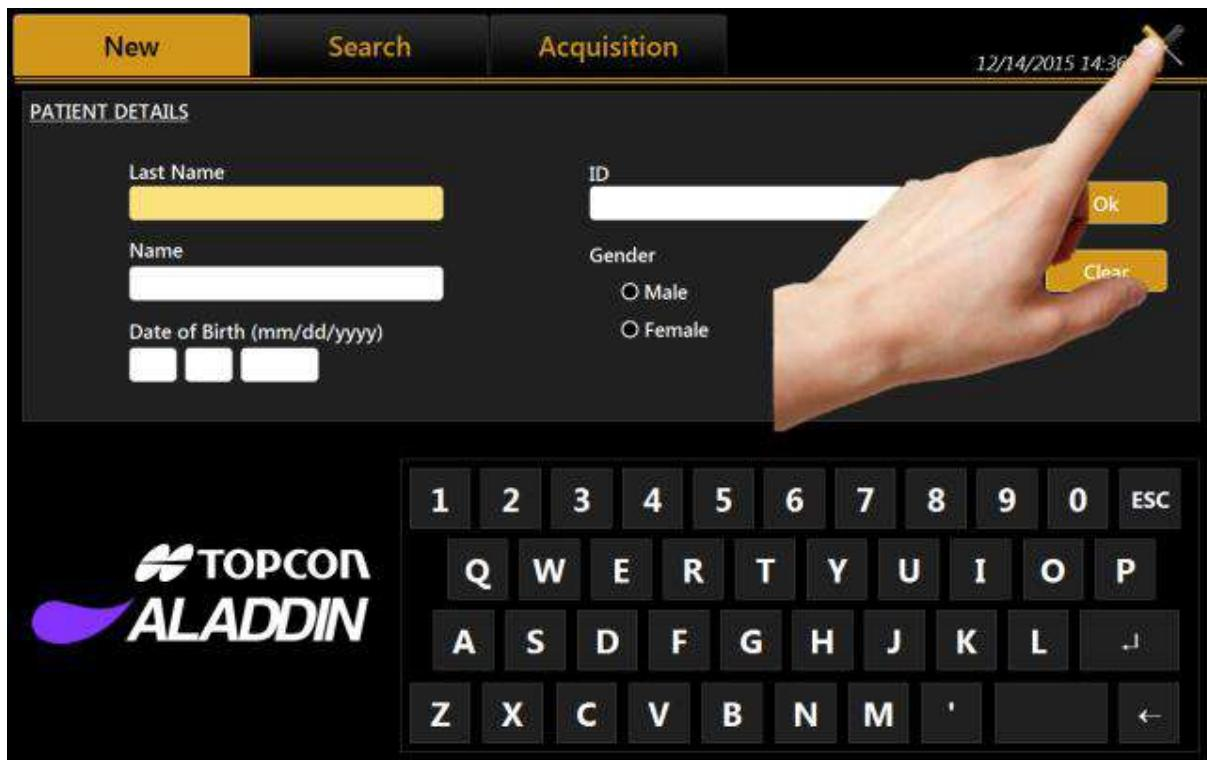

Figure 94
4. Click on the settings icon (Figure 94).